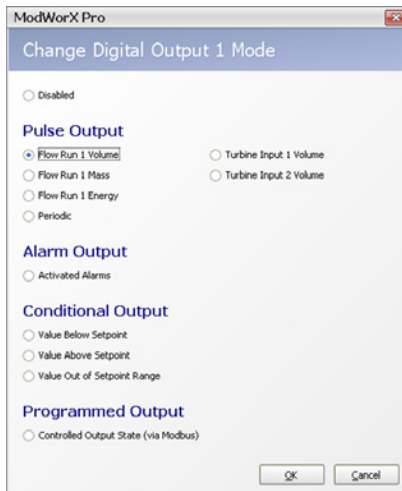

Figure 7.5
1. From the Change Digital Output screen, select the parameter that the digital output will represent (Figure 7.5):